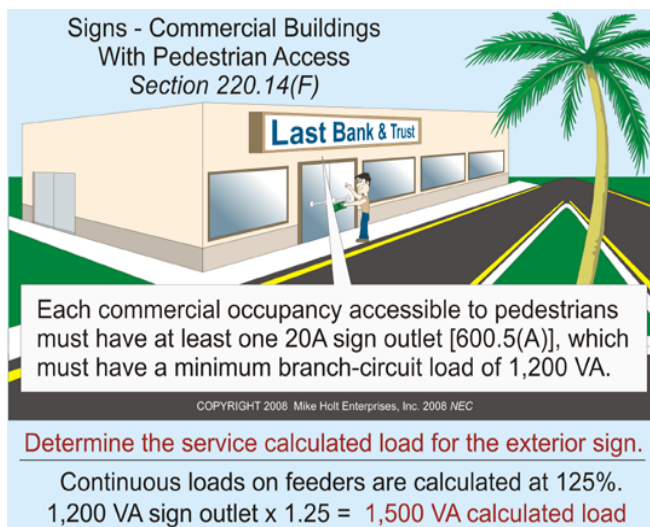

Figure 11–17
**Question:** What is the feeder/service conductor calculated load for one electric sign? **Figure 11–17**